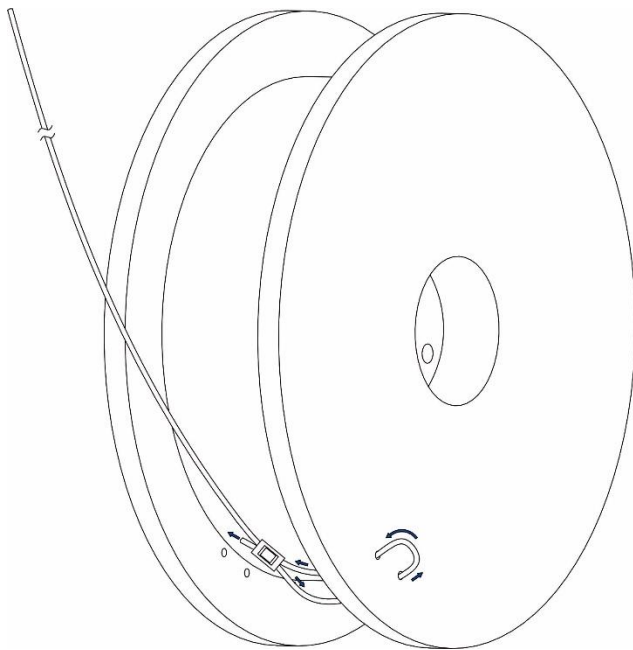

Fig.1
8.2.1 Cut the appropriate cable wire length  $\Phi 1.2\text{mm}$  (total measuring length+500mm), and insert the cable wire through the steel pipe  $\Phi 4.0 \times 0.5\text{mm}$ . There are two holes on the side board of the receiving pulley, insert the cable wire through one hole first and then guide the cable wire to the other hole & go back through the steel pipe. Use the pliers ( $2.0\text{mm}^2$  for holes) to do the crimping firmly at the central end of the steel pipe (Fig.1).